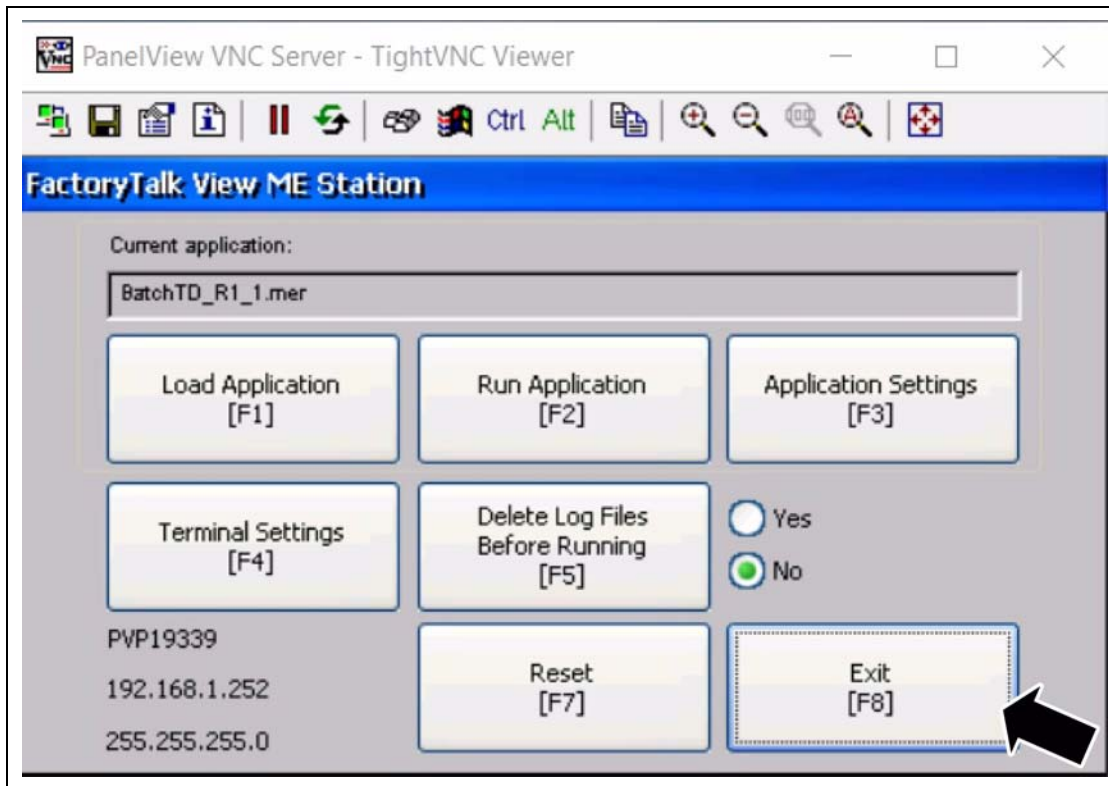

Figure 3C
1. Navigate to this screen and select the “Exit” key. (See Figure 3C.)